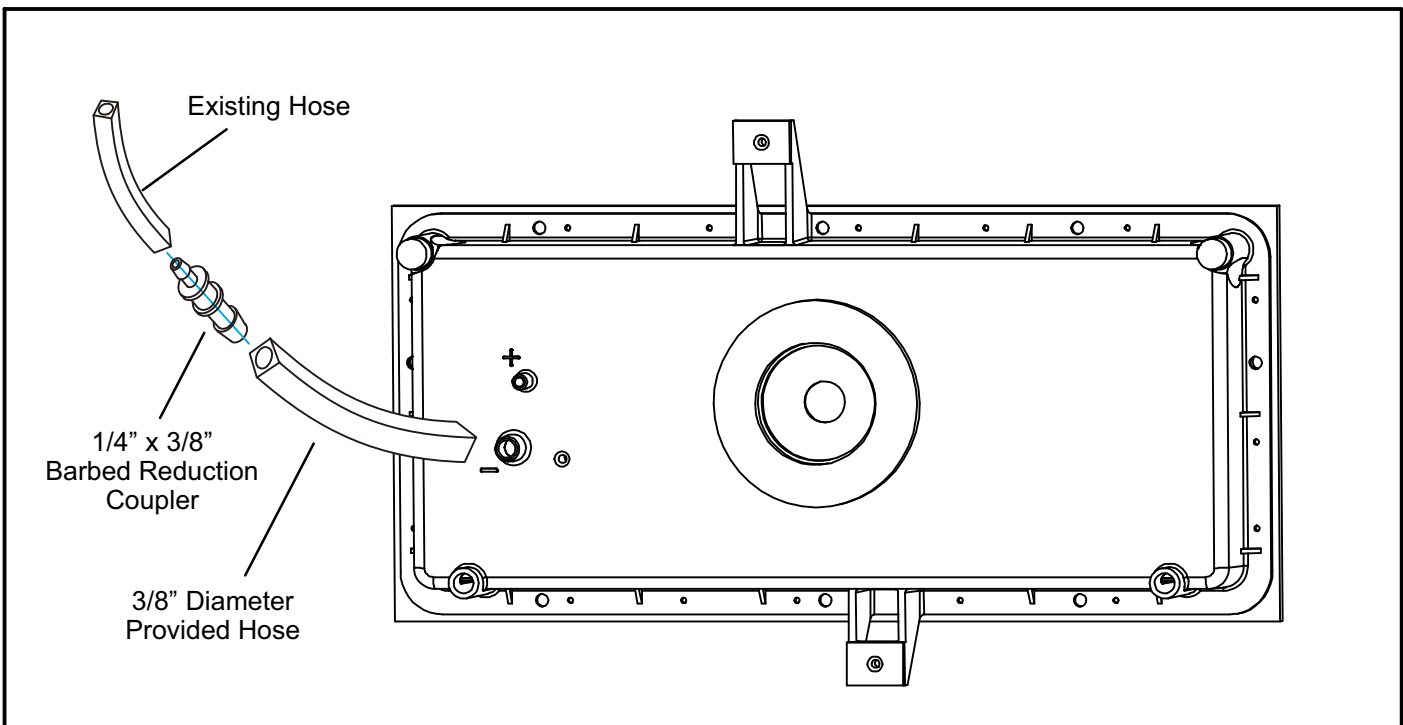

FIGURE 1
- 7 - Disconnect the (2) condensate tubes positioned at the bottom edge of the collector box.
- 9 - Remove and discard the (8) screws holding the collector box and remove.
- 11 - Use the provided (8) screws and install the replacement collector box. Make note of correct orientation.
- 17 - Insert the provided barbed reduction coupler into the provided 3/8" ID hose then connect to the 3/8" negative (-) port on the box. Make sure the hose is fully engaged to the port. See figure 1.